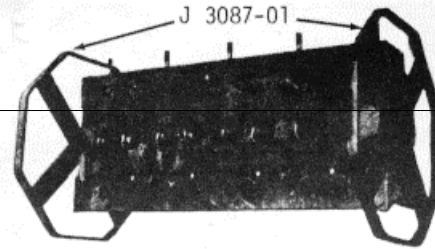

Fig. 7
- (15) Place the cylinder head on its side and remove the engine lifter brackets and gaskets. Then attach the cylinder head holding plates J 3087-01 (Fig. 7) to raise the head above the work bench.